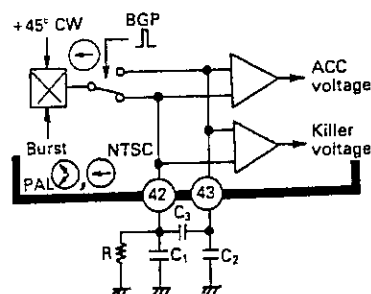
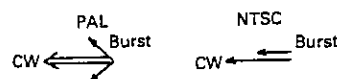

Figure 42-1.
Figure 42-2.
Fig. 42-1 shows the outline of the ACC (Automatic Chroma Control)/chroma killer detection circuit. The burst signal and $+45^\circ$ CW are multiplied by each other having the respective phases shown in Fig. 42-2, and the resultant signal is used to charge either pin ④ during BGP period or pin ④ during non-BGP period; the potential difference between pins ④ and ③ varies according to the amplitude of the incoming burst signal. When the amplitude is large, DC voltage of pin ④ becomes high.